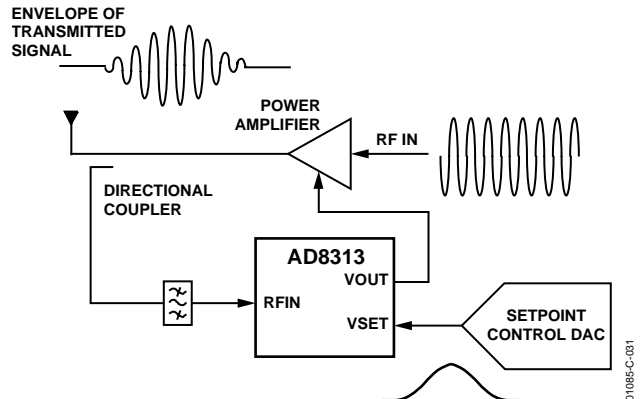

Figure 31. Setpoint Controller Operation
This mode of operation is useful in applications where the output power of an RF power amplifier (PA) is to be controlled by an analog AGC loop (Figure 31). In this mode, a setpoint voltage, proportional in dB to the desired output power, is applied to the VSET pin. A sample of the output power from the PA, via a directional coupler or other means, is fed to the input of the AD8313.